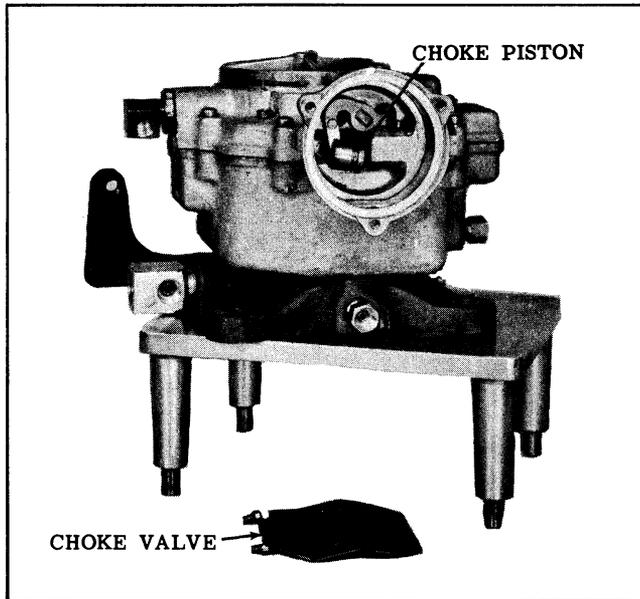

Fig. 8-124 Choke Piston
8. Rotate choke shaft clockwise to free choke piston from housing, then pull piston and choke shaft from carburetor. (See Fig. 8-124)